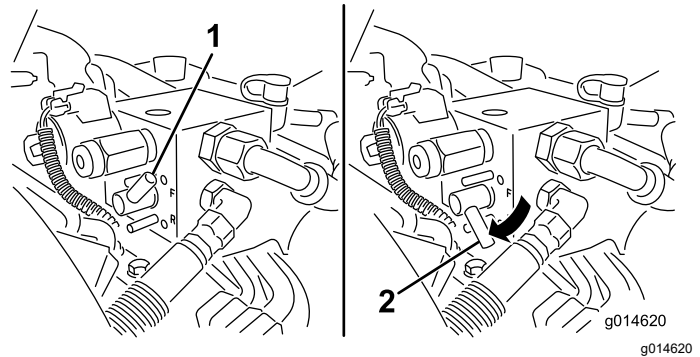

Figure 60
5. Rotate the backlap lever to the REVERSE (R) position (Figure 60).